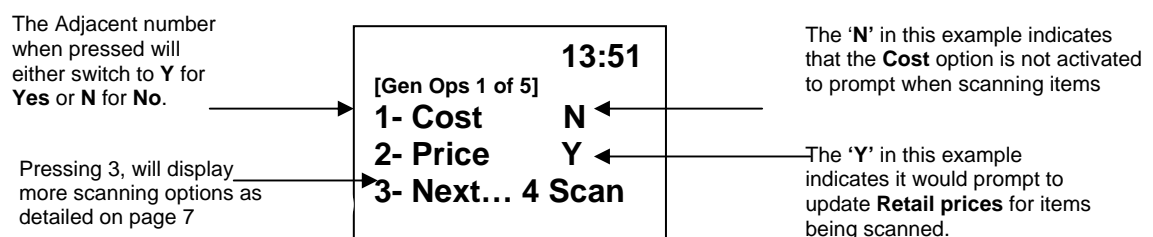

Figure 4: Configuring information
- To activate an option, press the number adjacent to the option you are wanting to activate, pressing the same number again will deactivate the option, refer to Figure 4
- Once all options required for your task have been activated, press 4 to start scanning, refer to Figure 4